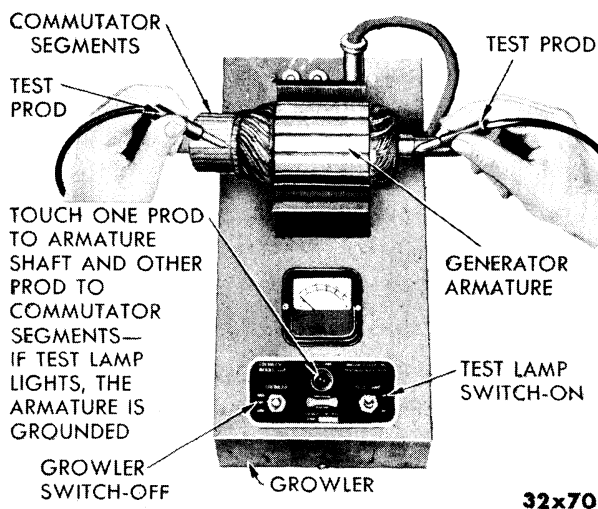

Fig. 10—Testing Generator Armature for Ground
- (1) GROUND—Touch one lead from a test lamp to the armature shaft and the other lead from the lamp to the commutator segments, as shown in Figure 10. If the test lamp lights, the armature is grounded.